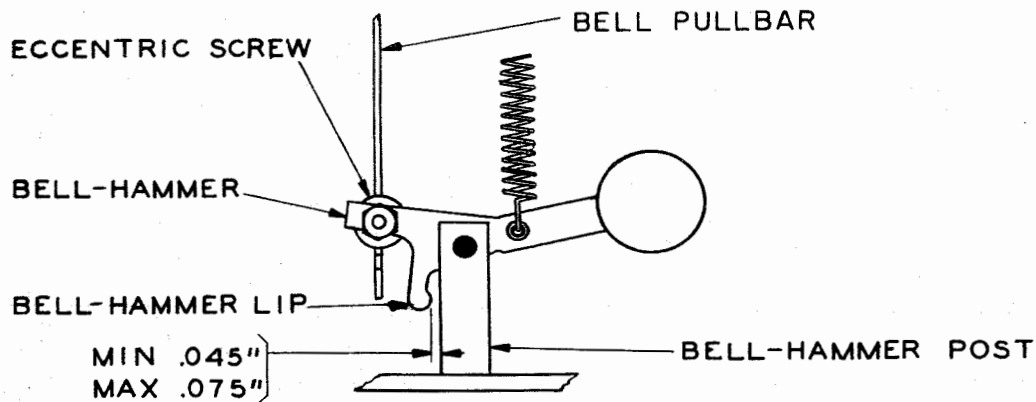

Figure 29
2.60 Signal-bell-hammer Lip shall clear the bell-hammer post by minimum 0.045 inch, maximum 0.075 inch for units which do not print on BELL selection (see Figure 29); and minimum 0.020 inch, maximum 0.040 inch for units which print on BELL selection. This clearance shall be gauged by eye when the platen is in the FIGS position, the BELL selection has been set up, the motor rotated by hand, and the bail lifted until the bell pullbar has reached its uppermost position. The pullbar toe shall fully engage the bell-hammer eccentric screw, ie, its end shall be approximately in line with the outer side of the eccentric screw.